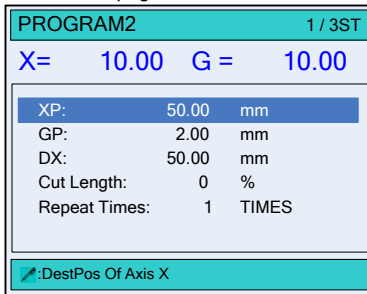

Figure 3-5 The **STEP** page
Step 4 After finishing the setting of the **PROGRAM** page, press  to enter **STEP** page, as shown in Figure 3-5.